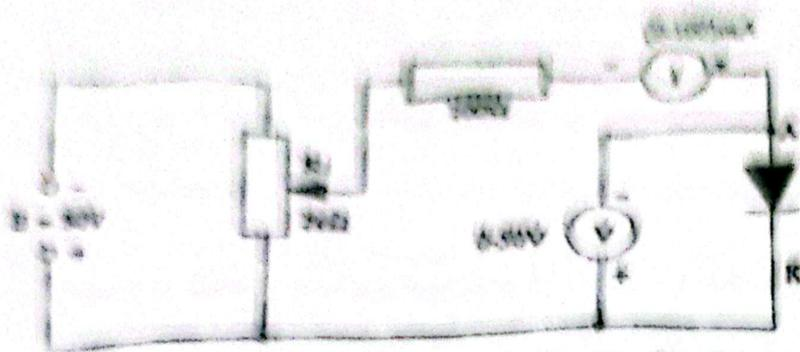

Fig. 6 Reverse-biasing mode of the diode
- (v) Set up the circuit shown in Fig. 6 for the silicon diode.